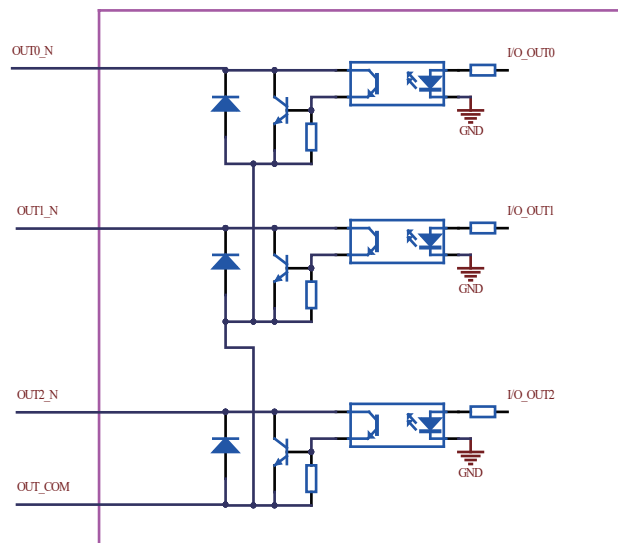

Figure 3
- (2) J3 I/O output port internal simplified circuit design (shown in Figure 3)